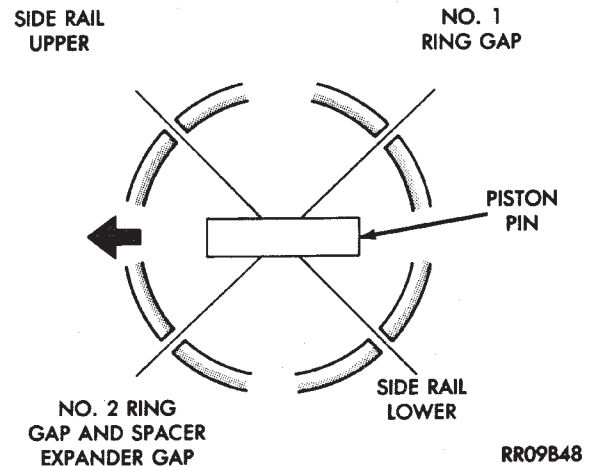

Fig. 13 Piston Ring End Gap Position
(5) Position piston ring end gaps as shown in (Fig. 13).
(6) Position oil ring expander gap at least 45° from the side rail gaps but **not** on the piston pin center or on the thrust direction.
(7) Connecting rod front mark 72 must always face